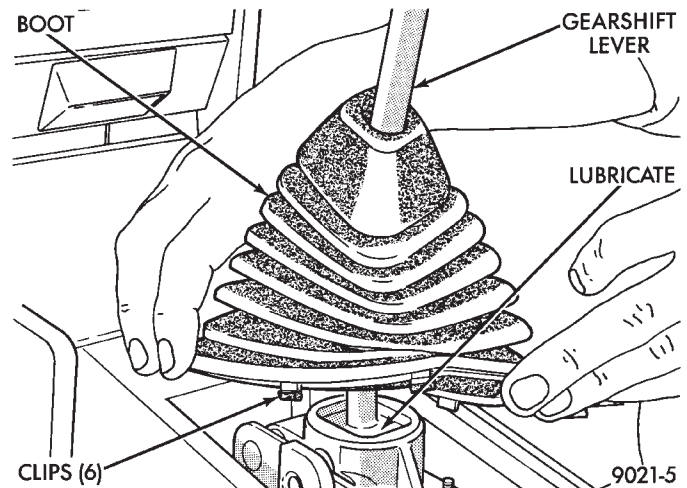

Fig. 5 Remove or Install Boot
(4) Remove or install boot (Fig. 5) or console.